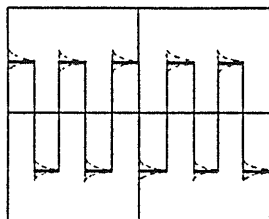

Figure 6-1
- 2) Connect to the CH1 INPUT terminal (11) the accessory probe with its switch set to the $\times 10$ position. Apply to the probe the 2-volt calibration signal from the CAL (Vp-p) terminal (1).
- 3) Set the AC-GND-DC switch (10) to the AC position. A waveform as shown in Figure 6-1 will be displayed.